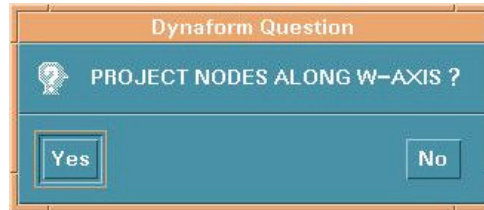

Figure 6.4.3 Project Node Question
- A DYNAFORM Question window is displayed, see Figure 6.4.3.